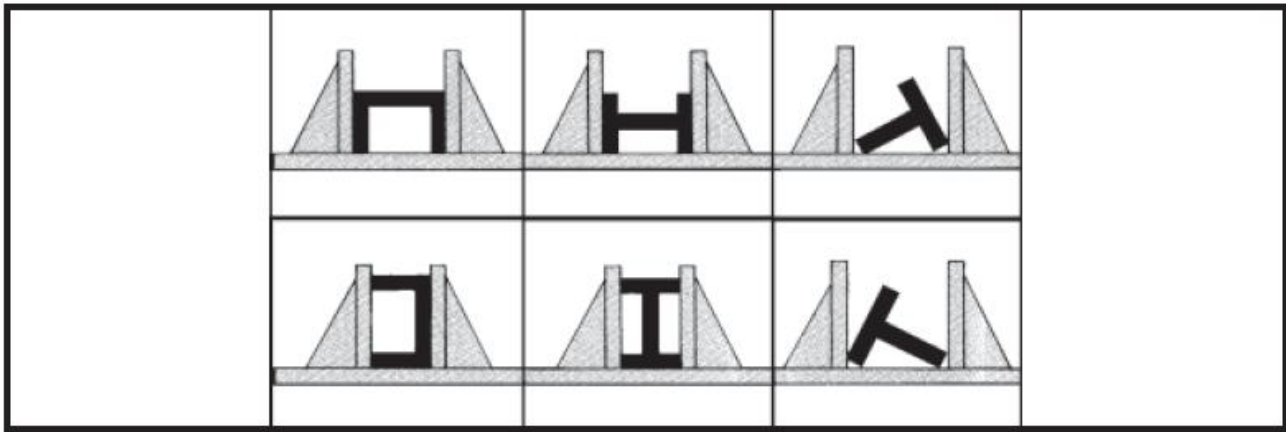

Fig. 10-11
- See table here below (fig. 10-11) showing some clamping methods on different profiles. Always make sure that the stock material is not too large for the machine cutting capacity.